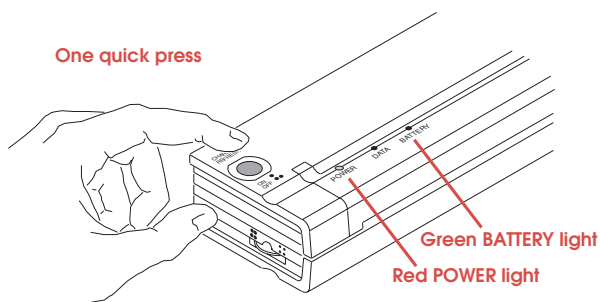

FIGURE 13. Turning on the printer.
- 2 Turn the printer on by pressing the main switch once quickly. The red POWER indicator lights up. (If you are using the battery, the green BATTERY indicator also lights up.) See Figure 13.